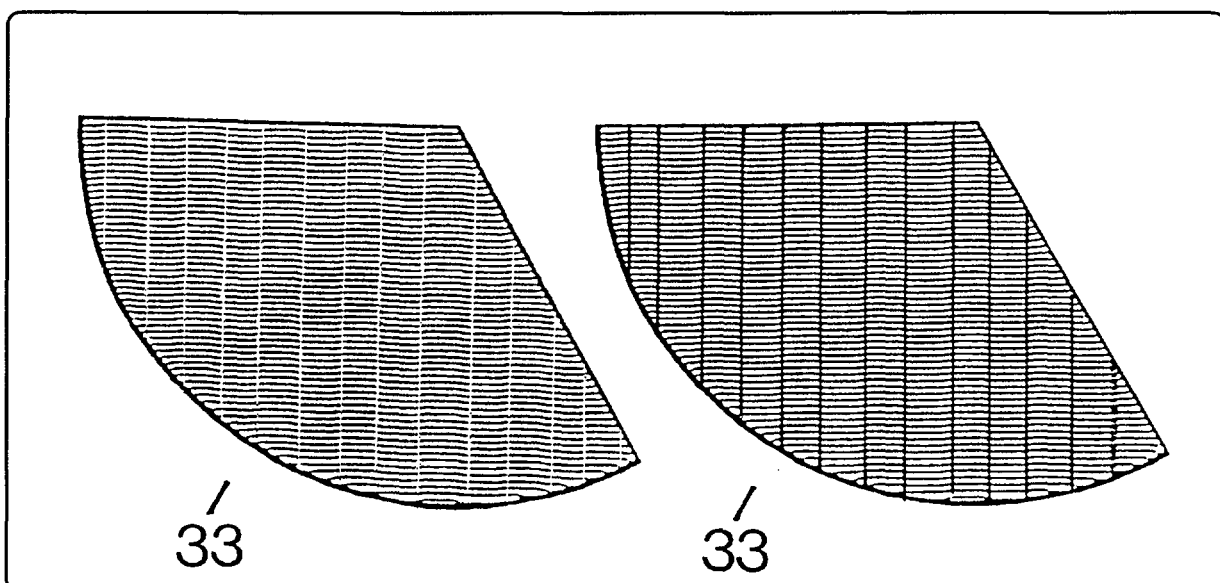

Figure 3-4. Vertical Stripes in the 33% Pie Slice
Check the adjustment by examining a self-test printout (see Figure 3-4 for an enlarged portion of the printout). Look at the 33% slice in the pie chart. If light vertical stripes appear (see left side), try setting RET to the next darker setting. If dark vertical stripes appear, try setting RET to the next lighter setting. If the output still has dark vertical stripes (see right side), adjust the print density dial to a slightly lighter setting (a higher number on the print density dial) and repeat the adjustment.
8. **Graph/Pie Chart:** The bar graph and pie chart test the printer's HP-GL/2 vector graphics capability. (The 33% portion of the pie chart also serves as a check on the Resolution Enhancement quality and proper adjustment—see Figure 3-4.)